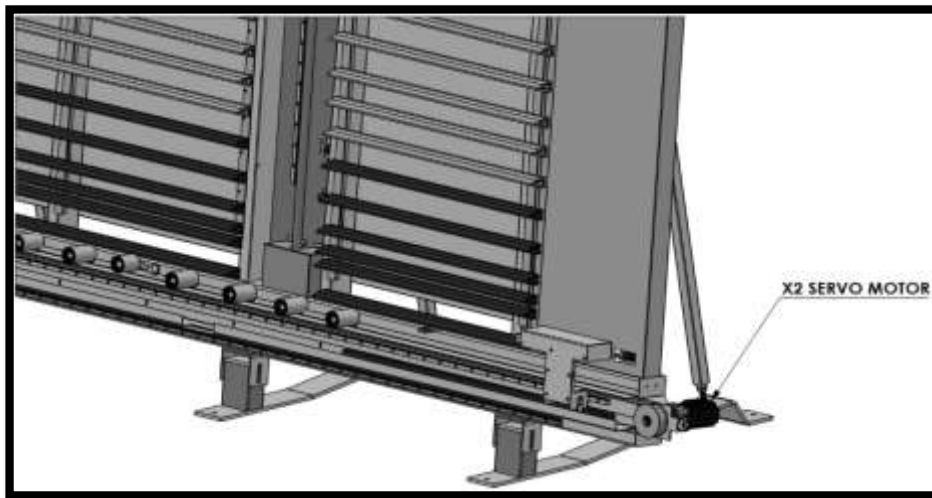

Figure 2.7 - Position of X2 Axis Motor on Chassis
- 2- The motor is mounted to the gear unit on the chassis (Figure 2.7). The coupling between the motor and the gear unit must be tightened tightly.